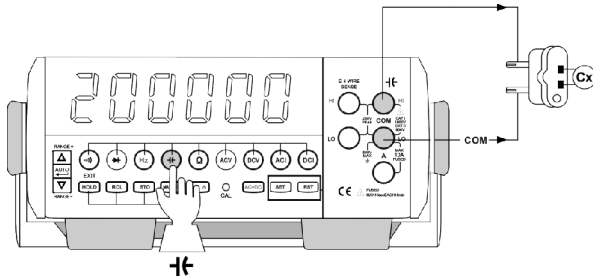

Figure 13
7. Capacitor Measurement (See Figure 13)